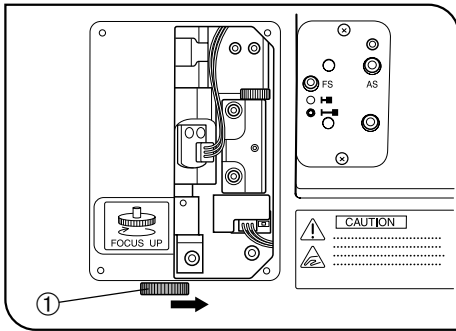

Fig. 3
1. Keep your hands apart from the revolving nosepiece during focusing operation and while the main switch of the BX-UCB control box is set to "I" (ON). If your finger is caught by the up/down movement of the revolving nosepiece, an injury such as bone fracture may result. Should your finger be caught by the revolving nosepiece, lower it with the following method:
- Set the main switch to "O" (OFF), remove the right side panel of the illuminator using a Phillips screwdriver and turn the manual knob ① inside the panel in the opposite direction to the direction shown in the figure (i.e. clockwise) to lower the revolving nosepiece. (Fig. 3)